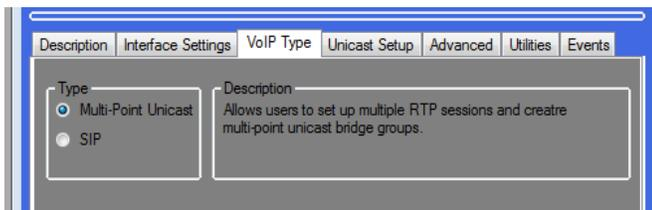

Figure 5
4. “VoIP Type” is the next Tab to click as shown in Figure 5. This allows the user to choose different modes of operation. Most applications use Multi-Point Unicast (the default).